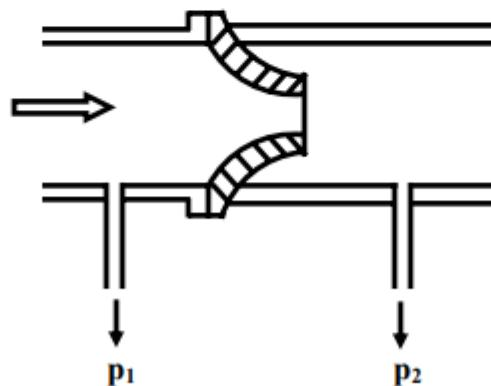

Fig. 5 Flow nozzle
- Flow nozzle is a compromise between orifice plate and venturimeter. The typical construction is shown in fig. 5.